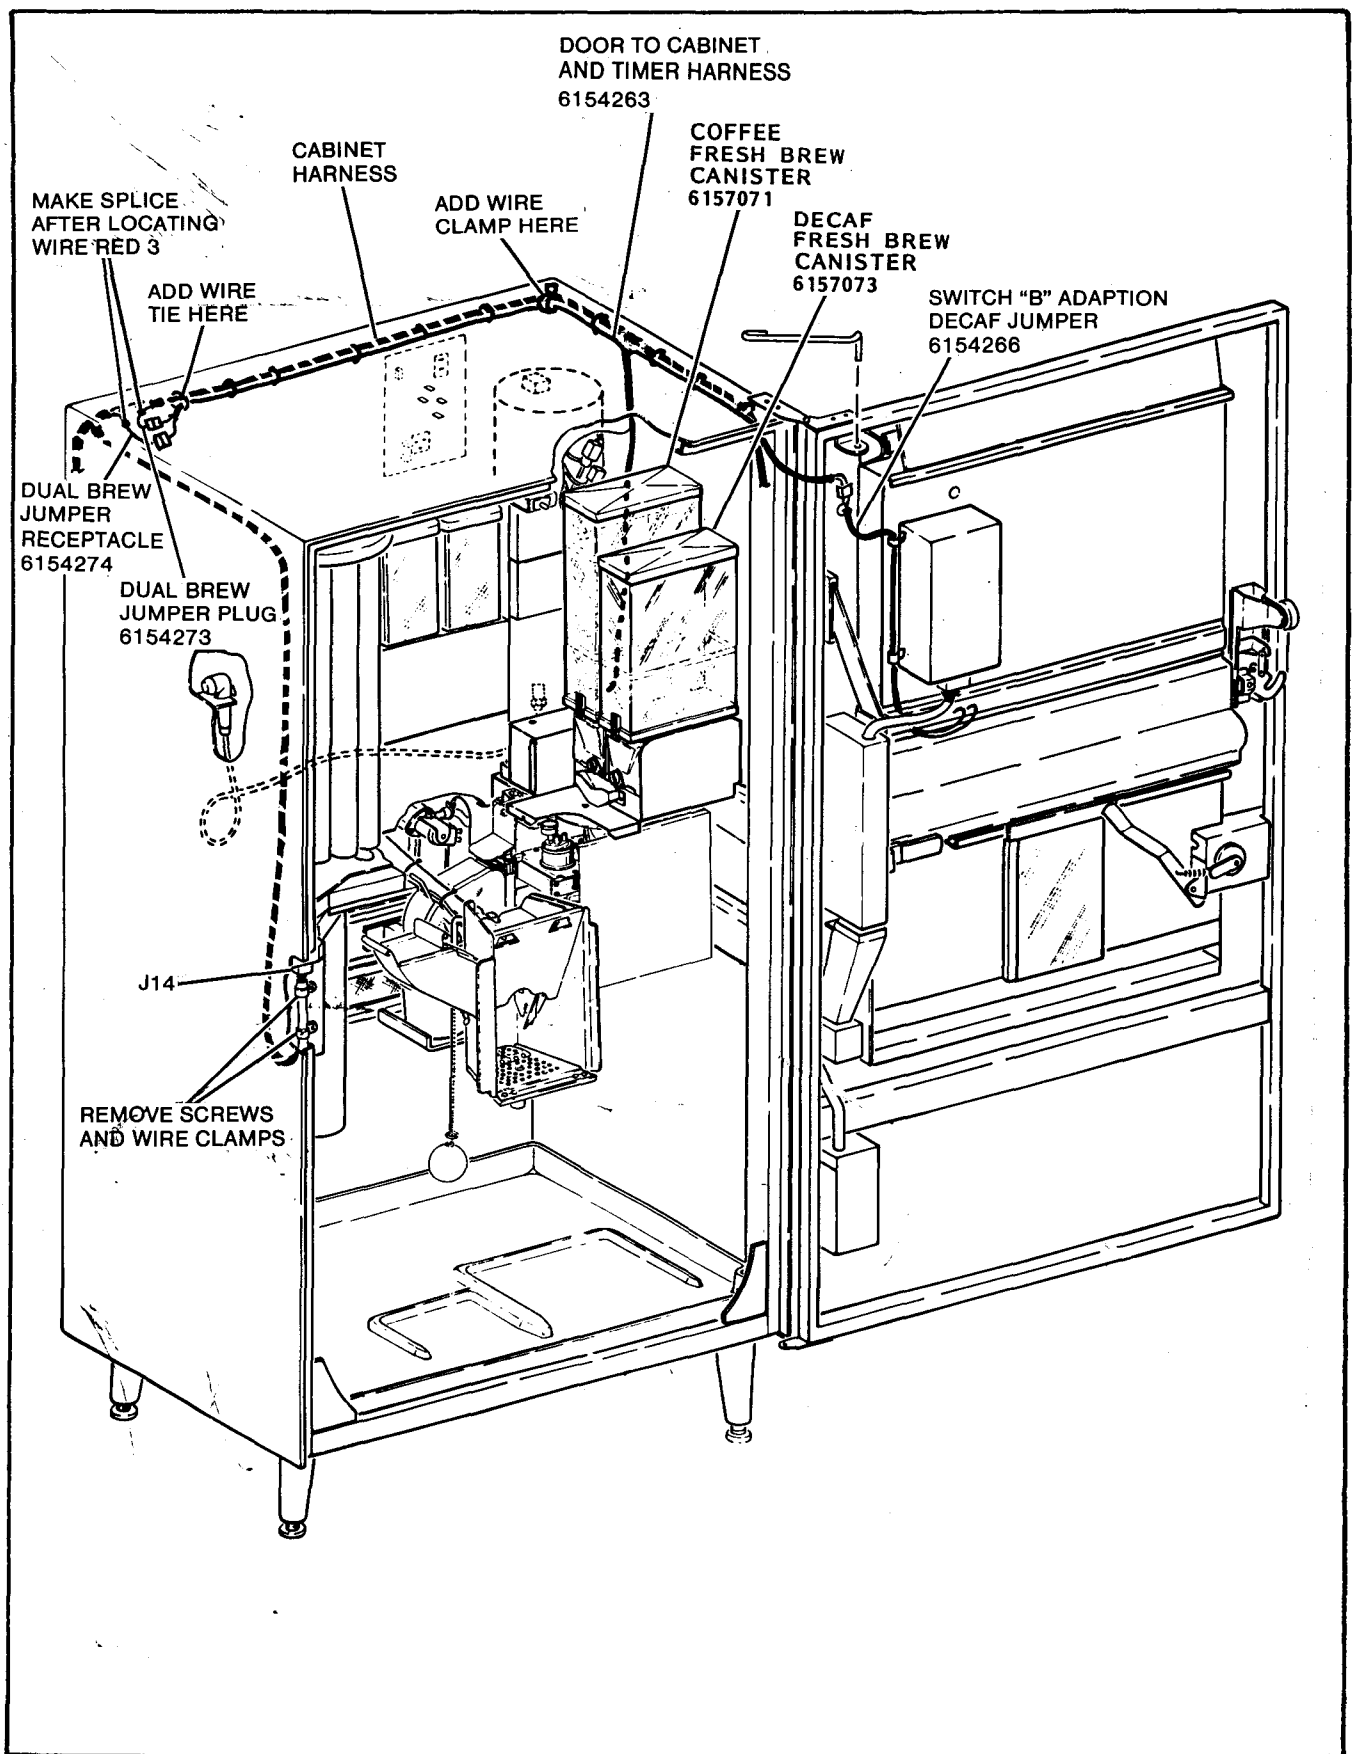

Figure 6
Remove the two screws and wire clamps holding the Cabinet Harness to the Timer Assembly. Disconnect J14 from P14. See Figure 6. Locate wire RED 3 which terminates at the No.3 position on the J14 connector.
1. Install the following by referring to Figure 5 and Figure 6.
2. Add wire ties and wire clamps where indicated and as required. All wiring should be secured to prevent any interference with other equipment. See Figure 6.